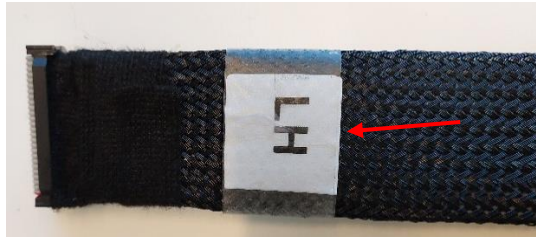

Figure 49. Attach the label.
15) Attach the label on the cable (See Figure 49).